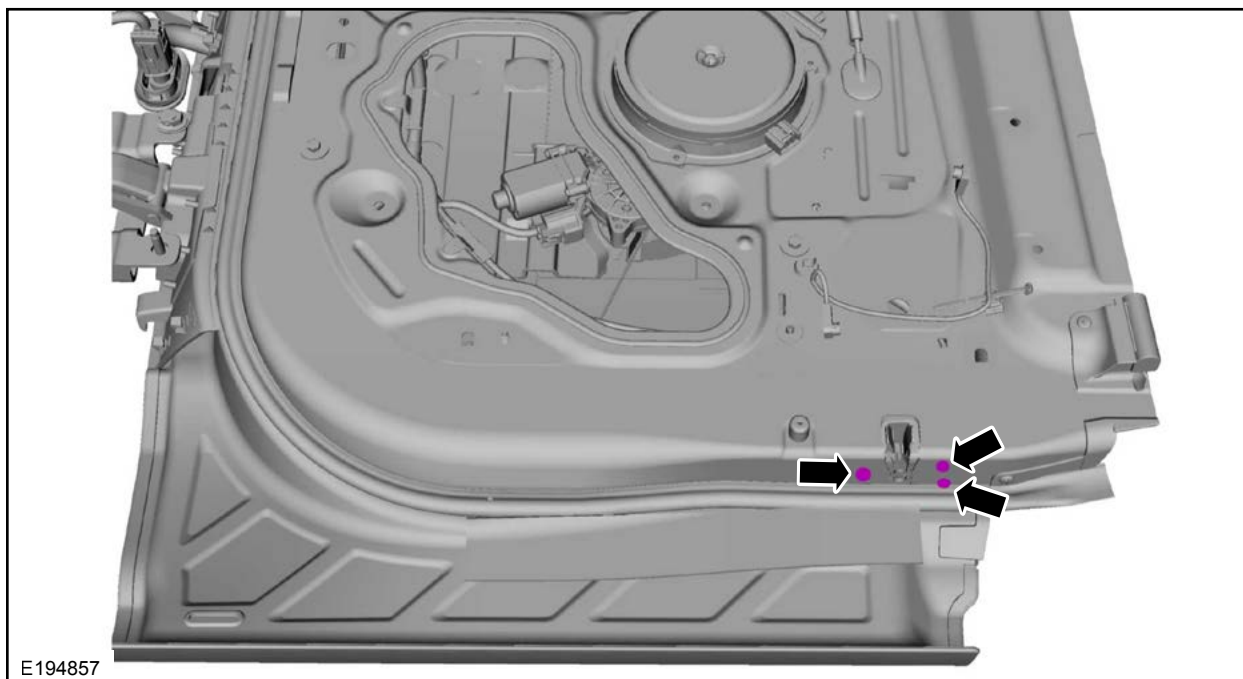

FIGURE 14
4. Remove the three lower door latch bolts. See Figure 14.
11. Install the three door latch bolts. See Figure 14.